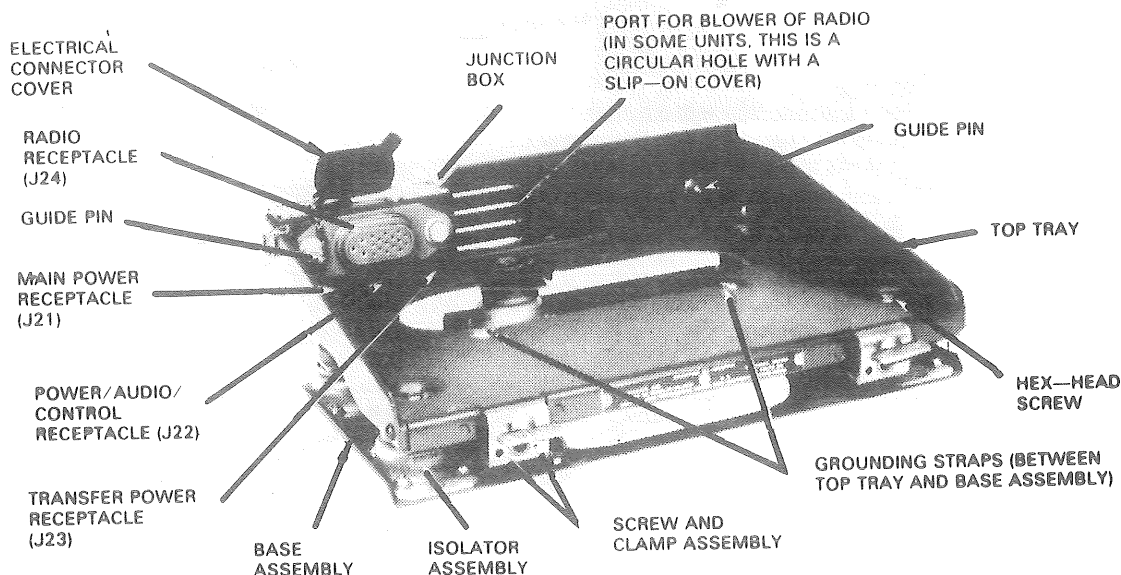

Figure 2. Mounting MT-1029/VRC.
- b. Loosen CLAMPS on Mount MT-1029/VRC as shown in figure 2.
- d. Mate POWER INPUT CONNECTOR (fig 1) of the amplifier-power supply with the CONNECTOR (fig 2) on MT-1029/VRC JUNCTION BOX. Be sure that GUIDE PINS (fig 2) of MT-1029/VRC are aligned with GUIDE PIN HOLES (fig 1) of amplifier-power supply.
- f. Engages CLAMPS (fig 2) on MT-1029/VRC with CLAMP RECESSES (fig 1) of amplifier-power supply and tighten CLAMPS securely.